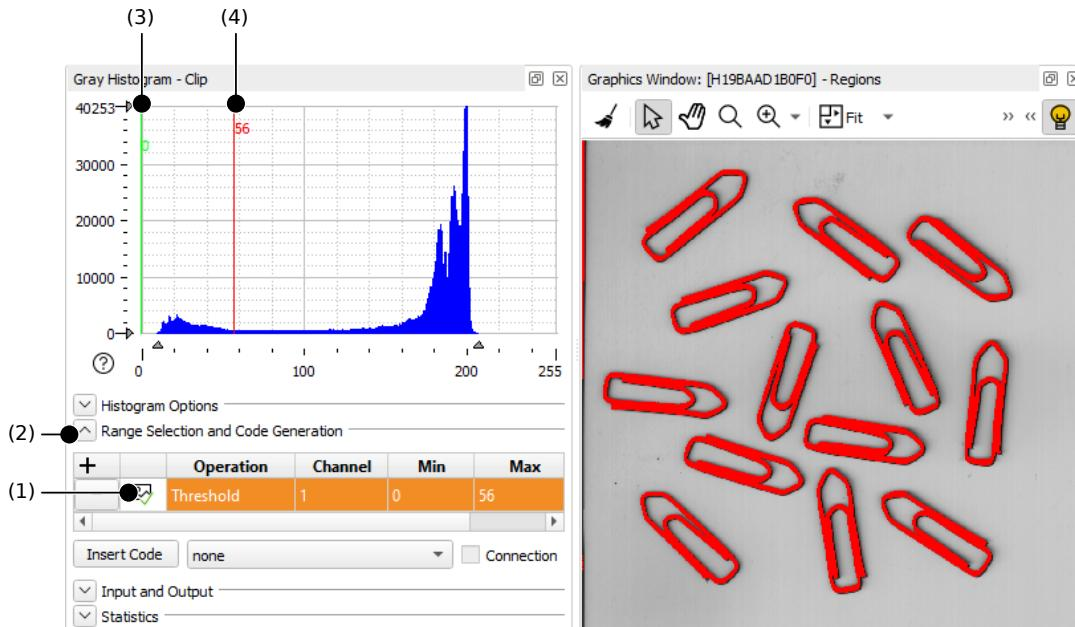

Figure 4.7: Determining threshold bounds interactively using the gray histogram.
Make sure Range Selection and Code Generation is visible in the histogram window (2), see figure 4.7. Select Threshold in the column Operation of the gray histogram window, and click the icon next to Threshold (1) to visualize the operation. Now, you can try different threshold bounds by altering the values in Min and Max or by dragging the green (3) and the red line (4) in the histogram area. Any changes to these values are immediately visualized in the active graphics window. The values 0 and 56 seem suitable for the lower and upper bounds, respectively.